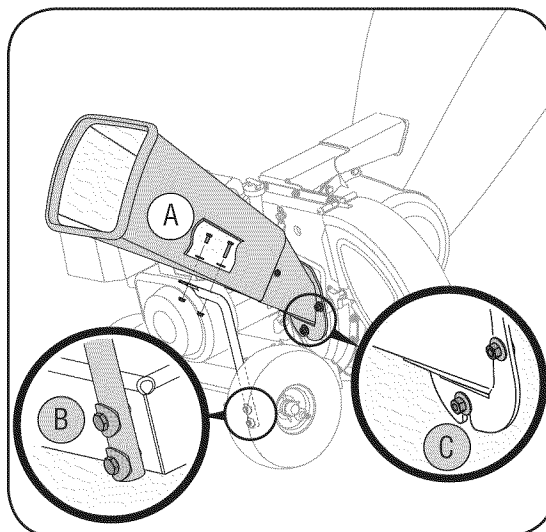

Figure 7
- 7. The chipper shredder was shipped with one end of the support brace already secured to the lower frame. Loosen but do not remove the bolts securing the brace to the frame. See Figure 7.